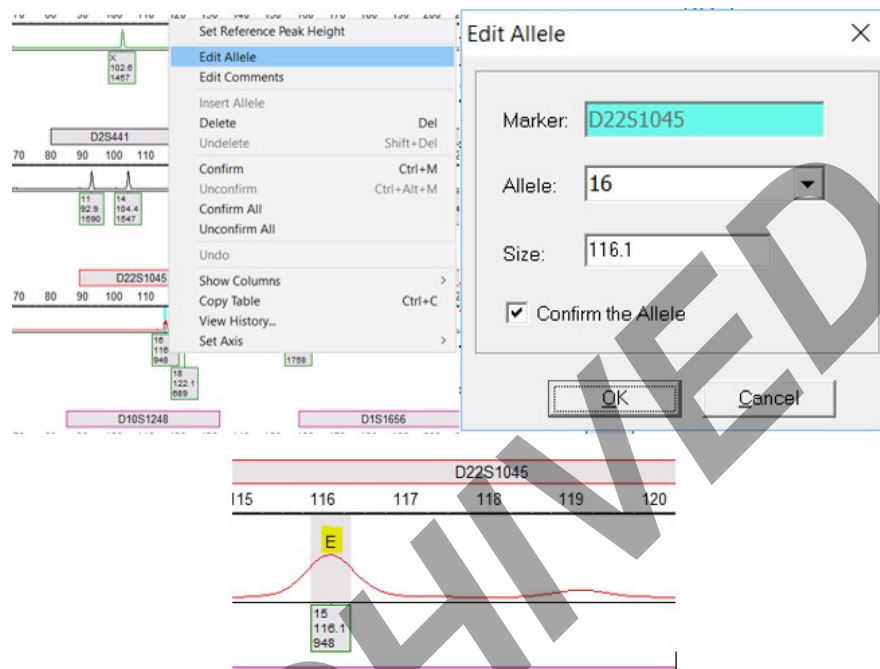

Figure 9. Editing peaks in GeneMarker™ HID
3. To edit a peak, right click on the peak and choose “Edit Allele”. The allele information can then be edited and the peak will appear with an “E” above it (Figure 9).